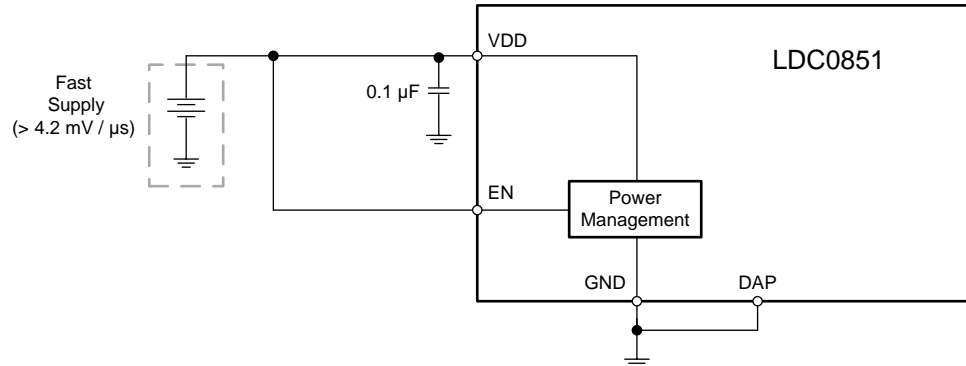

Figure 32. Supply Connections for Fast Ramp Rate
A 0.1 μF capacitor should be used to bypass VDD. If multiple bypass capacitors are used in the system, then the smallest value capacitor should be placed as close as possible to the VDD pin. A ground plane is recommended to connect both the ground and the Die Attach Pad (DAP). If the supply ramp rate must be faster than 4.2 mV/ μs the enable pin (EN) may be tied directly to VDD as shown in Figure 32.